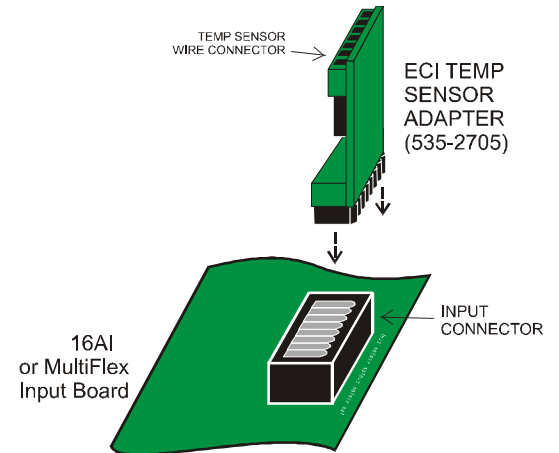

Figure 1 - ECI Temp Sensor
- Plug the ECI Temp Sensor Adapter into an 8-pin connector on the input board, as shown in **Figure 1 - ECI Temp Sensor**.